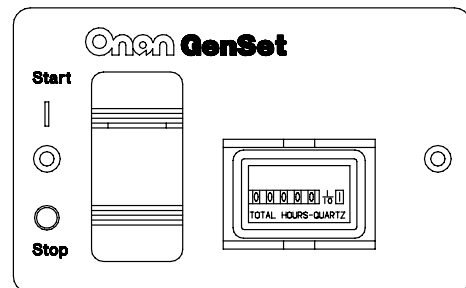

FIGURE 5-4. REMOTE SWITCH / HOUR METER
- Remote start/stop switch with status indicator light and hour meter (Figure 5-4).